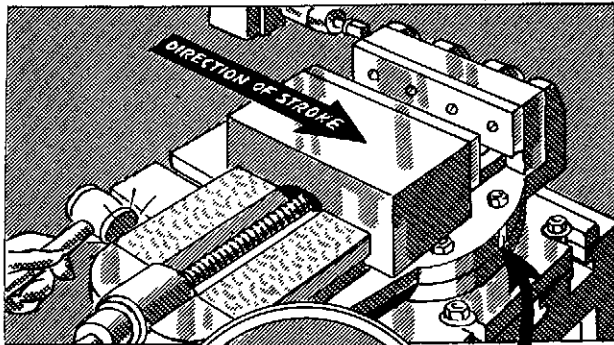

FIG. 140
5. Lightly tap the vise into position with a lead mallet if it is necessary to adjust the setting. Use a magnifying glass to magnify any slight variation in the position of the matching lines, thereby making it possible to adjust the markings more accurately (Fig. 140).